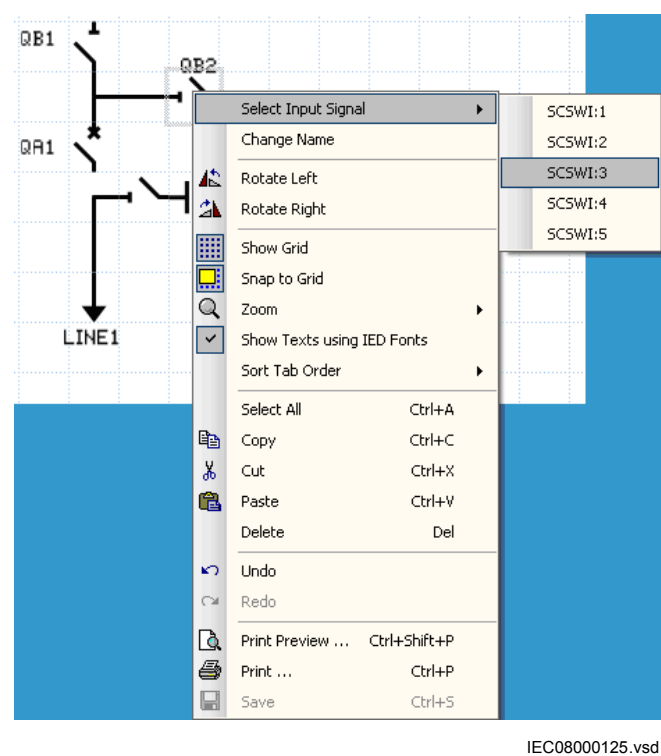

Figure 72: GDE: Input signal selection
1. Right-click the apparatus symbol and select **Select Input Signal**. A list of engineered switch control application function blocks opens, see Figure 72.